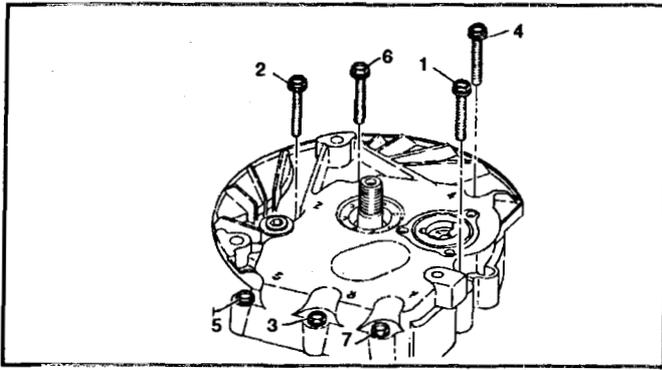

Figure 83
4. Install the retaining screws and tighten them to 85 in lbs (9.5 Nm) as shown in Figure 83.